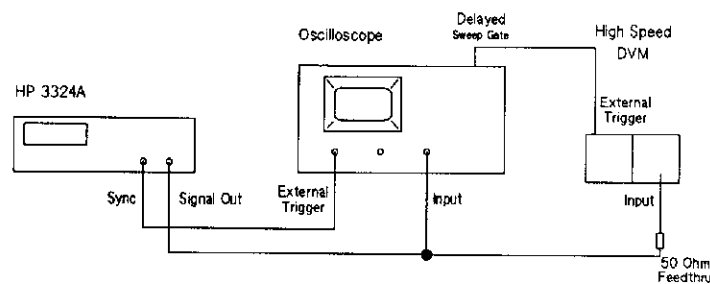

Figure 12-5. Function Amplitude Accuracy Test Set-Up
7. **Function Test.** Set up the equipment as shown in Figure 12-5.